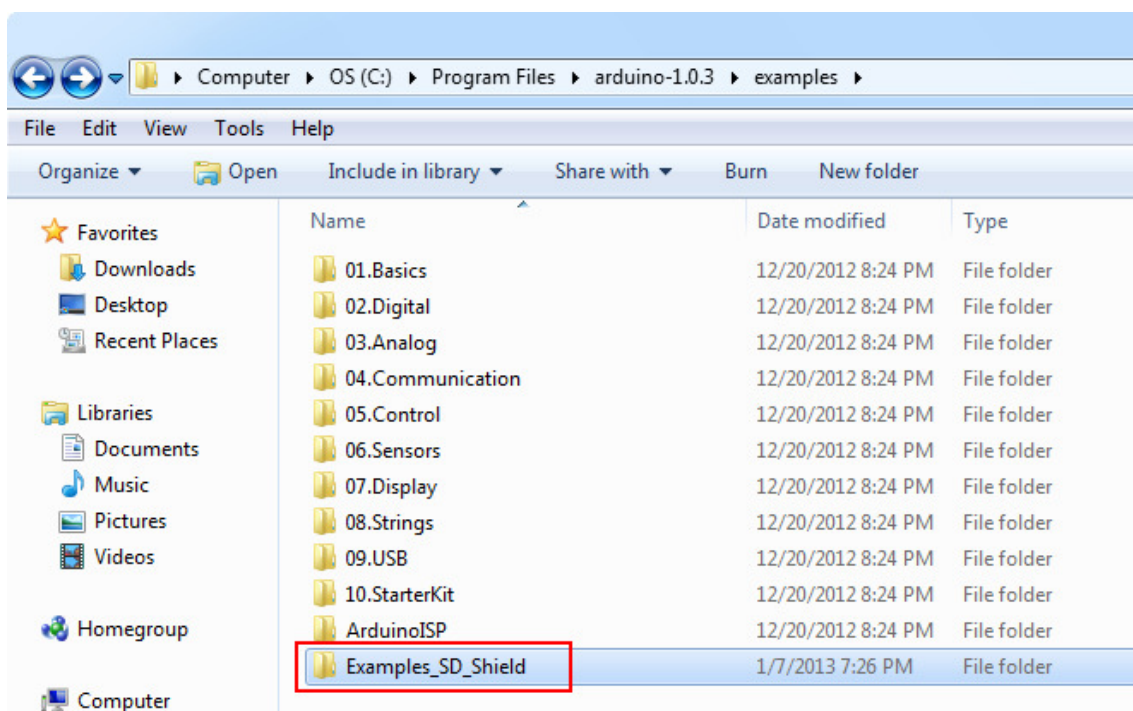

Figure 8.
5. Then copy example programs of the SD Card Shield Plus from a free CD is choose folder “Examples_SD_Shield” into drive “C:\Program Files\arduino-1.0.3\examples” as figure 8.